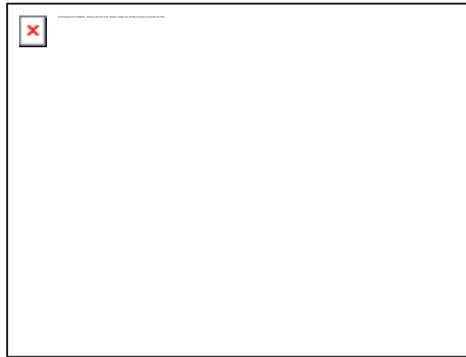

Figure 1. All Segments of the Display
2. Push **⓪** while you keep **LOG** pushed until all of the display segments are shown. See Figure 1.